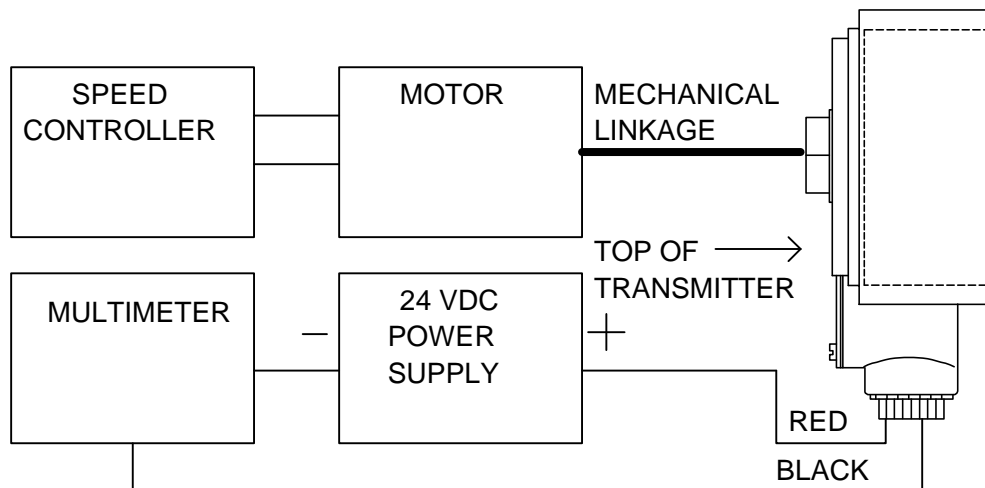

Figure 13 Block Diagram of Calibration Set Up
1. Refer to Set Up drawing, Figure 13 and connect the equipment accordingly.